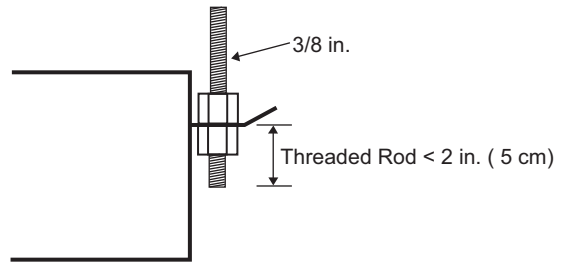

Fig. 41 — Threaded Rod Dimension
2. Secure the unit in position with locknuts and washers on both sides of the unit bracket. Ensure the threaded rod does not protrude more than 2 in. (5 cm) below the mounting bracket as shown in Fig. 41.